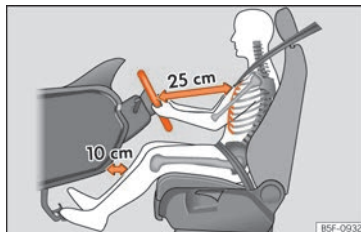

**Fig. 3** The correct distance between the driver and the steering wheel must be at least 25 cm (10 inches).
- Move the steering wheel so it is at least 25 cm (10 inches) away from the sternum »» Fig. 3 and you can hold it with both hands on both sides, on the outer part, with your arms slightly bent.
- Move the seat in such a way that you can step on the pedals with your knees slightly bent and with a distance between the knees and the dashboard of at least 10 cm (4 inches) »» Fig. 3.